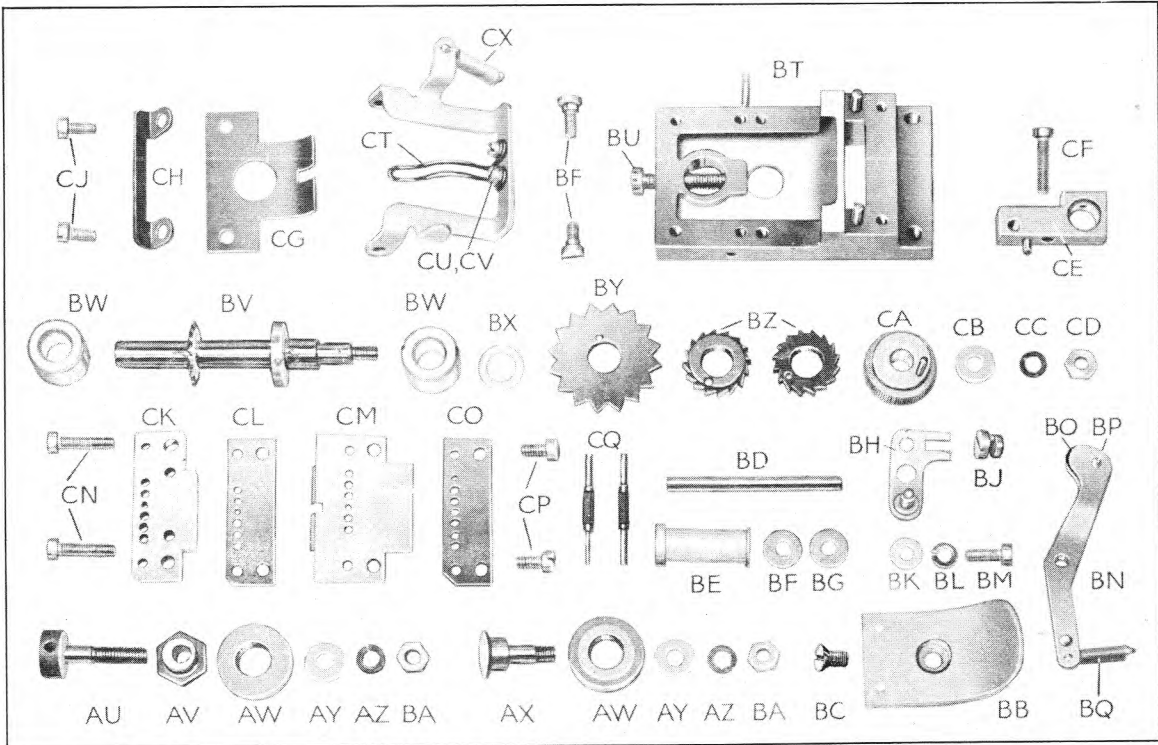

Fig. 43 PUNCH BLOCK HEAD C.P. AND PUNCH BLOCK FULCRUM C.P. COMPONENTS
* These parts, although shown separately in Fig. 43, are line reamed on assembly in our factory. Customers unable to perform this operation should order either of the following two C.P.s, which comprise the above items marked * assembled:-